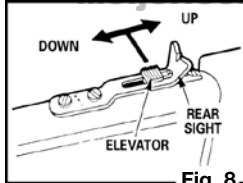

Fig. 8
- When moving the elevator, slightly lift the rear sight with one hand, and move the elevator with the other hand and reset it on the desired notch. (Fig. 8)